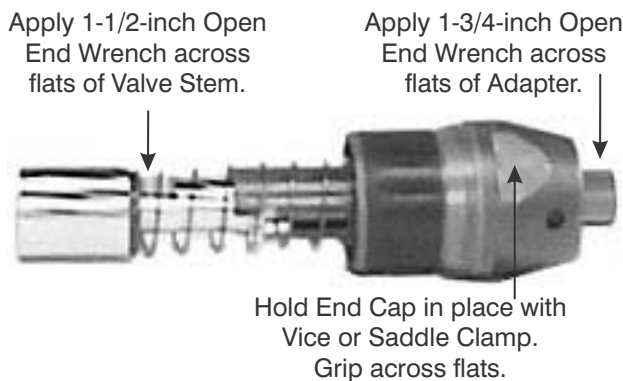

Figure 9-18. Secure Adapter To Valve Stem.
- Use a 1-3/4-inch open-end wrench to hold the Adapter (16) in place, as shown in Figure 9-18.
- With a 1-1/2-inch open-end wrench across the flats of the Valve Stem (8), thread the Valve Stem into the Adapter (16) until it is wrench tight. Refer to Figure 9-18.